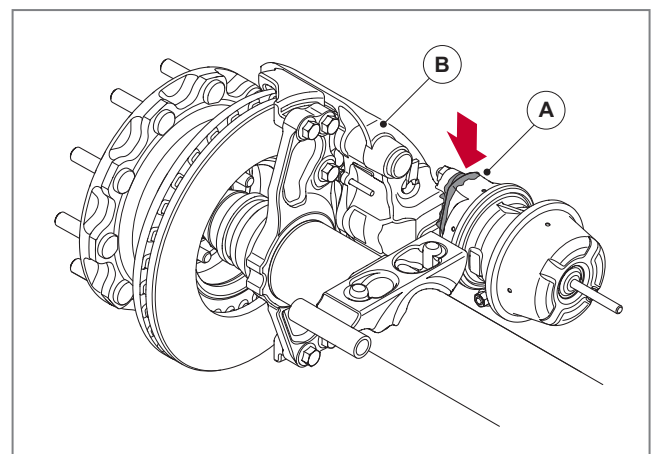

Fig. 43 - Mating surfaces of the brake chamber and brake calliper
Thoroughly clean around the mating surfaces of the brake chamber (A) and brake calliper (B) to ensure that dirt does not get into the mechanism area when removing the brake chamber, see ► Fig. 43.